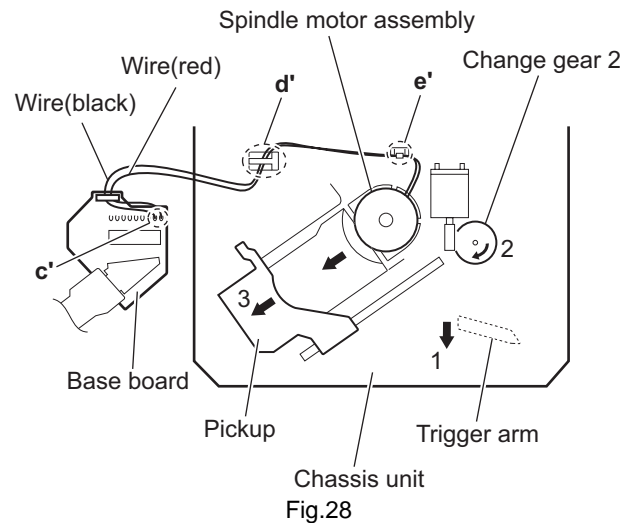

Fig.28
- From the bottom side of the chassis unit, turn the change gear 2 in the direction of the arrow 2 while pulling the trigger arm in the direction of the arrow 1 and let the pickup move in the direction of the arrow 3. (See Fig.28.)
- Slide the spindle motor assembly in the direction of the arrow and take out it in an upward direction from the chassis unit. (See Fig.28.)